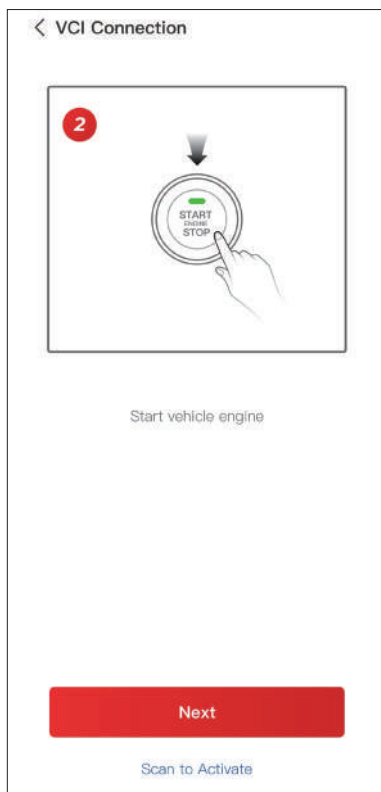

Figure 3-5
- ② Start the engine of the vehicle as prompted on the guided interface. Then tap **Next** (See Figure 3-5).